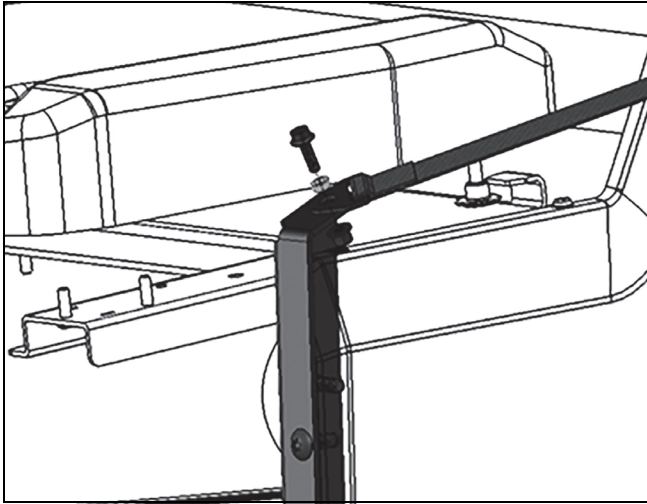

Fig. 15
16. Secure Door Strap to the strap bracket and the door using two Flange Hex Screws (M6 x 20 mm), two Spacers, and two M6 Flange Nuts. Tighten to 45 in.-lb. The strap ends should be free to rotate. See Fig. 15 and 16.